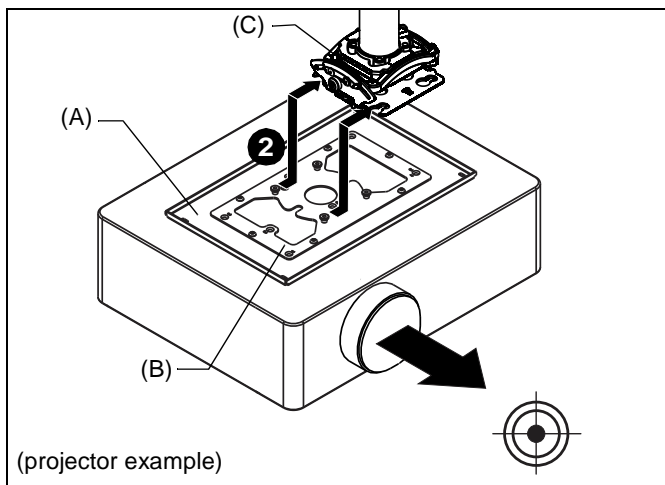

Figure 5
1. Orient projector with projector mount. (See Figure 5)